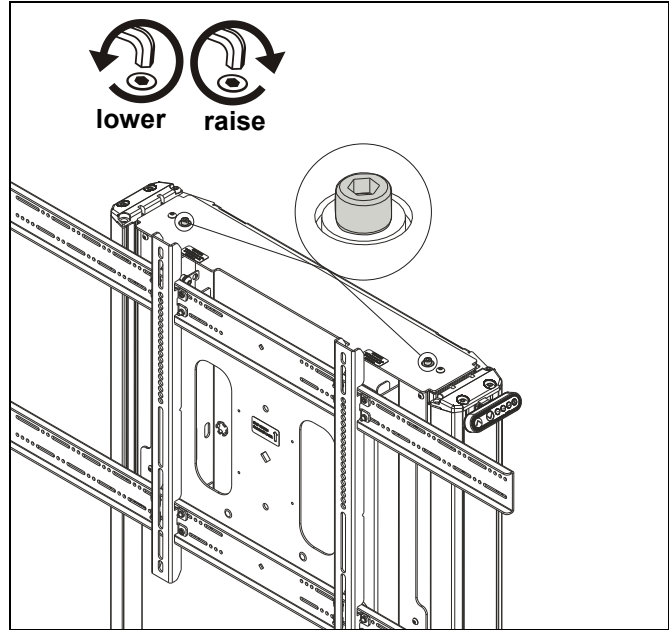

Figure 25
1. Use 3/16" hex key to adjust leveling adjustment screws on top of stand. (See Figure 25)